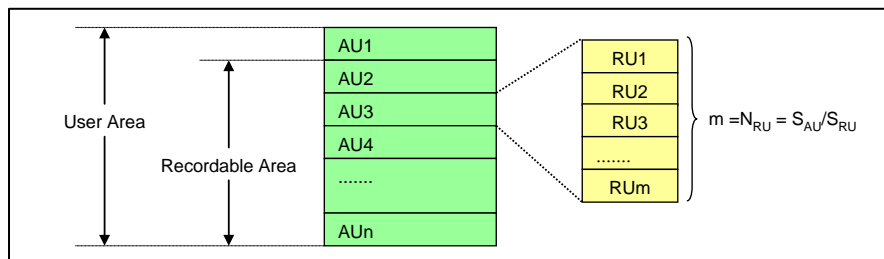

Figure 4-47: Definition of Allocation Unit (AU)
4.13.1.1 Allocation Unit (AU)
The User Area is divided into units called "**Allocation Unit (AU)**" (Refer to Figure 4-47). AU is physical boundary in User Area of a card and is not defined by the file system boundary. Each card has its own fixed **AU Size (S_{AU})** and the maximum AU Size is defined depending on the card's capacity. The host should manage data areas with the unit of AU. If the first AUs in the card contain file system information then they should not be used for real time recording. An AV application should start recording from the first complete AU, to which only user data can be recorded. Note that this specification does not apply to the Protected Area.
4.13.1.2 Recording Unit (RU)
Each AU is divided into units called "**Recording Unit (RU)**" (Refer to Figure 4-47). The unit of **RU Size (S_{RU})** is 16KByte. The RU Size is a multiple of 16KByte and shall not span across an AU boundary. Larger RU size may improve performance. The condition and requirement of the minimum RU Size is defined by Section 4.13.1.8.1. **The number of RUs in an AU (N_{RU})** is calculated from S_{AU}/S_{RU} .